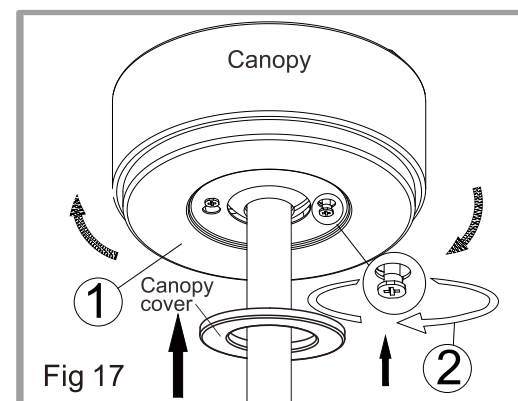

Fig 17
and tighten the screws into two right holes. (Fig 17)
- 2) Attach the canopy cover with magnet to the canopy. (Fig 17)